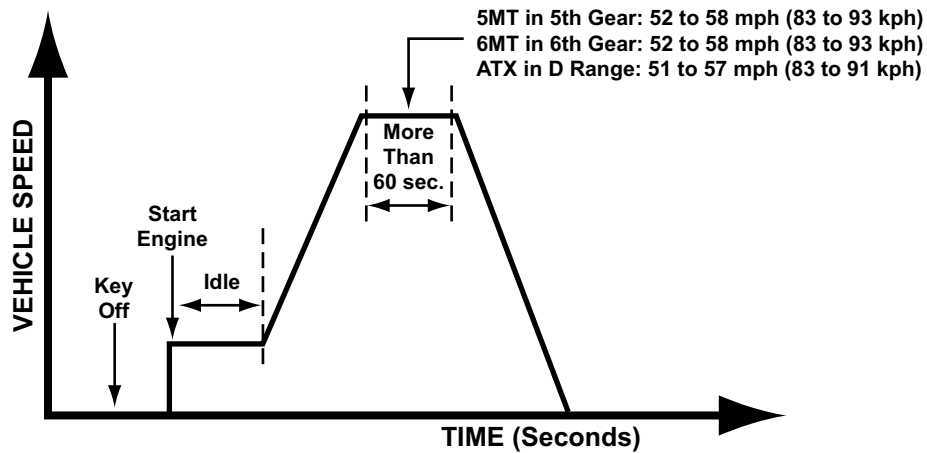

Figure MA000-39
3. Drive the vehicle as shown in Figure MA000-39.